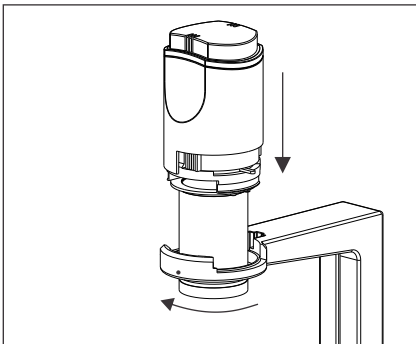

Fig. 8.1
1. Insert the illuminator into the arm opening and rotate the illuminator 90° clockwise so that the letters "NA 0.30" faces directly in front. See fig 8.1